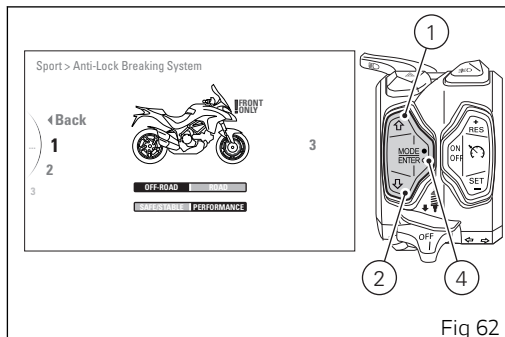
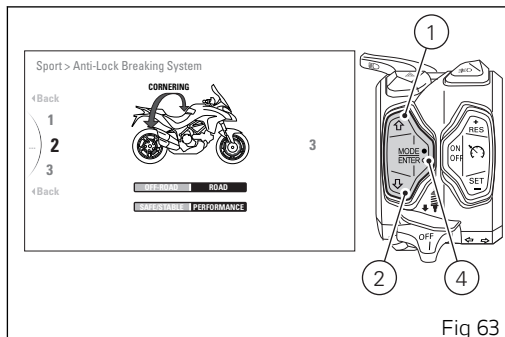

Fig 62
Fig 63
With buttons (1) and (2) select the new level of intervention desired. For each highlighted level, the corresponding paired value in the central table (highlighted with a black background) will be displayed. Furthermore, the braking system intervention level is indicated in Light Blue: the indication "**!FRONT ONLY**" (Fig 62) only for the front active brake, the indication "**CORNERING**" (Fig 63) for the active Cornering function. Once the desired level is highlighted, press button (4) to memorise the new selection. To exit the menu and go back to previous page highlight the "**◀ Back**" indication and press button (4).